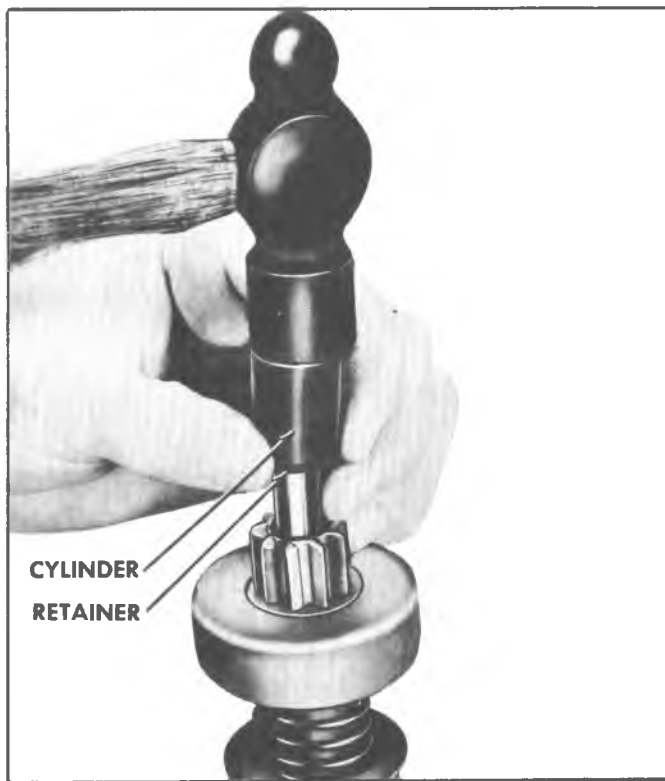

Fig. 3S-Driving Retainer Off Snap Ring
- b. Slide a standard half-inch pipe coupling or other metal cylinder of suitable size (an old pinion of suitable size can be used if available) onto shaft so end of coupling or cylinder butts against edge of retainer (fig. 3S). Tap end of coupling with hammer, driving retainer towards armature end of snap ring.